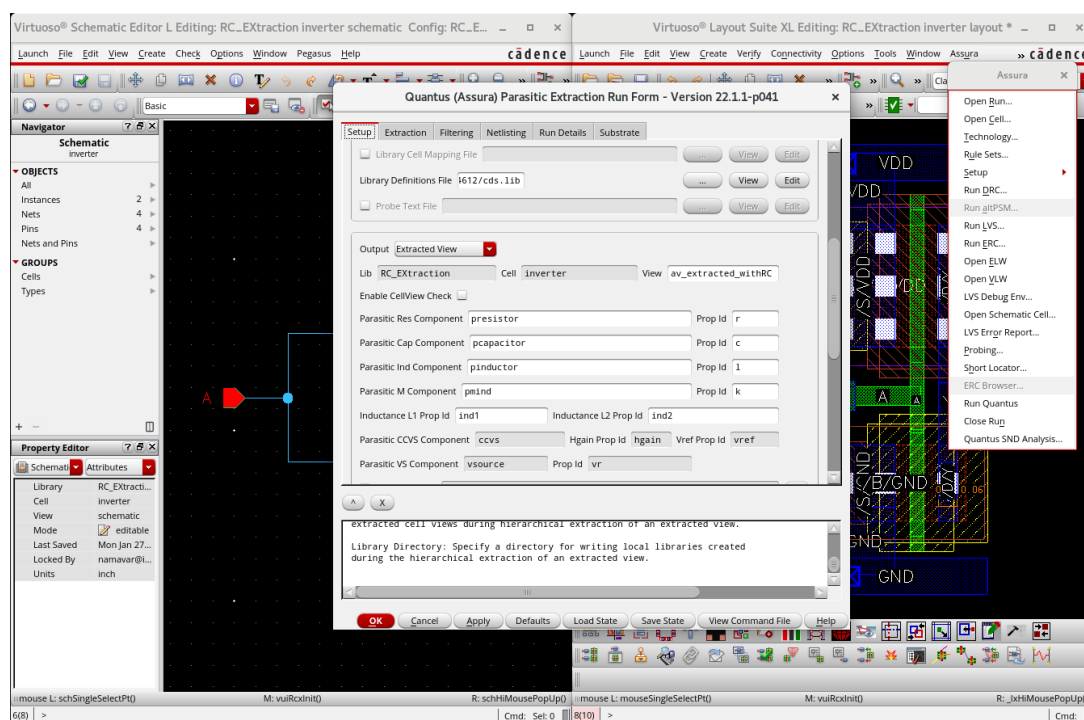

Figure 7: Quantus Setup Tab Configuration for RC Parasitic Extraction. Ensure the proper View name is set.
2. In the **Setup Tab**, configure the settings as before. Choose a proper and unique name for the **View** in the Output field (e.g., `av_extracted_withRC`). Refer to Figure 7.